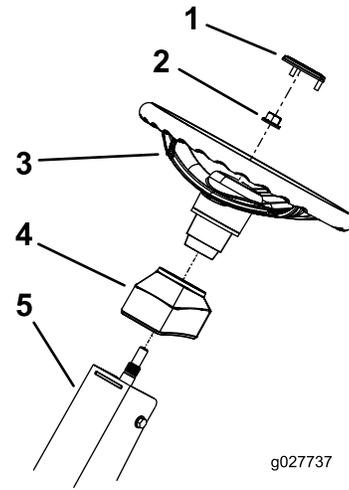

Figure 4
3. Install the steering wheel and top cover to the steering column with the locknut (Figure 4).